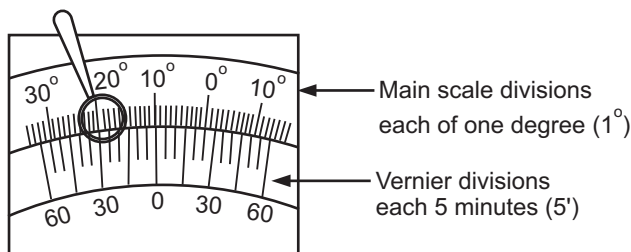

Fig. 4.2: (b) Reading the Vernier scale
- If angle of a component is to be determined, observe the divisions of main scale as well as Vernier scale, as shown in Fig. 4.2 (b).